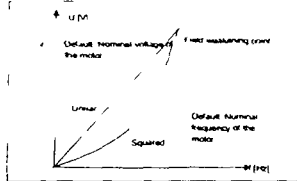

Figure 10 4 1 2 Linear and squared V/f curves
**Squared** The voltage of the motor changes following a squared curve from 0 Hz to the nominal frequency of the motor. The Nominal voltage of the motor is supplied at this frequency. See figure 10 4 1 2.